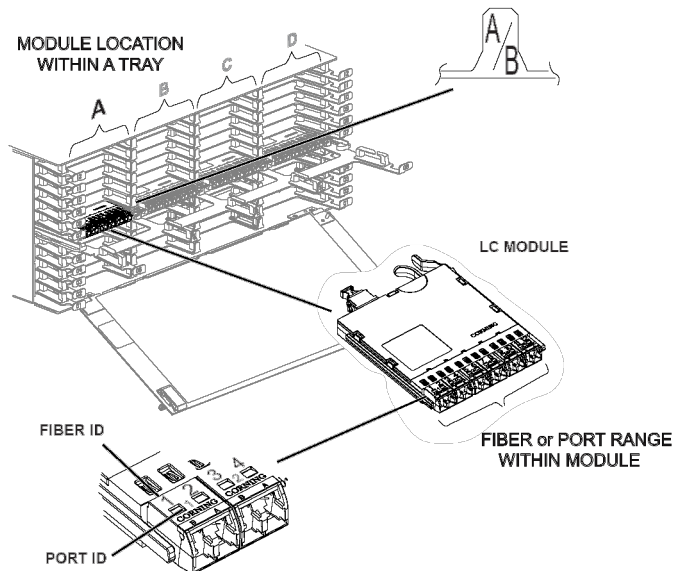

Figure 29 — Module Label Location
Step 4: Module Location with Fiber or Port Range (Figure 29)